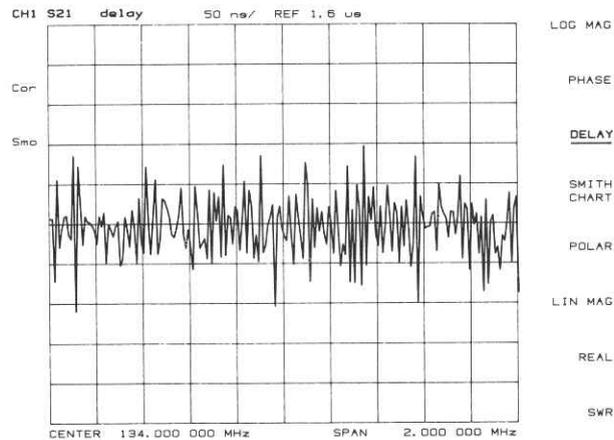

Figure 4-12. Group Delay Format
**[DELAY]** (DELA) selects the group delay format (Figure 4-12), with marker values given in seconds. Figure 4-12 shows the bandpass filter response formatted as group delay. Group delay principles are described in the next few pages.